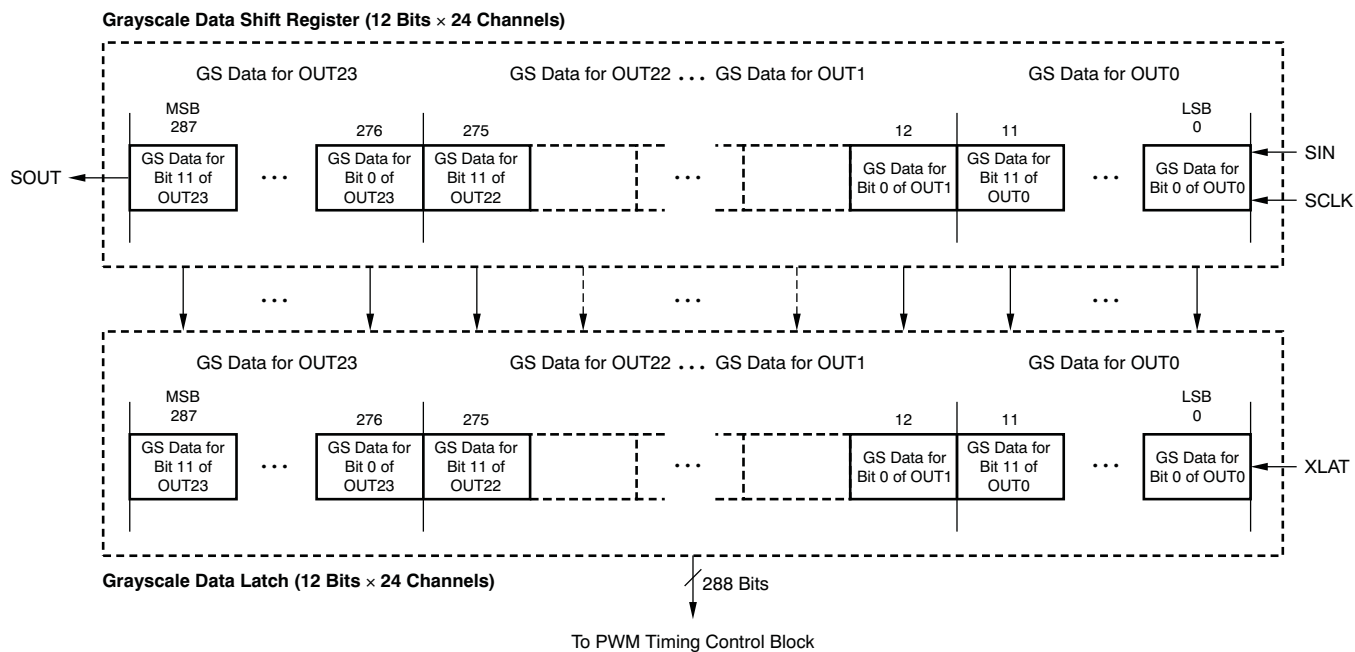

Figure 21. Grayscale Data Shift Register and Latch Configuration
The TLC5947 has a grayscale (GS) data shift register and data latch. Both the GS data shift register and latch are 288 bits long and are used to set the PWM timing for the constant-current driver. Table 1 shows the on duty cycle for each GS data. Figure 21 shows the shift register and data latch configuration. The data at the SIN pin are shifted to the LSB of the shift register at the rising edge of the SCLK pin; SOUT data are shifted out on the falling edge of SCLK. The timing diagram for data writing is shown in Figure 22. The driver on duty is controlled by the data in the GS data latch.